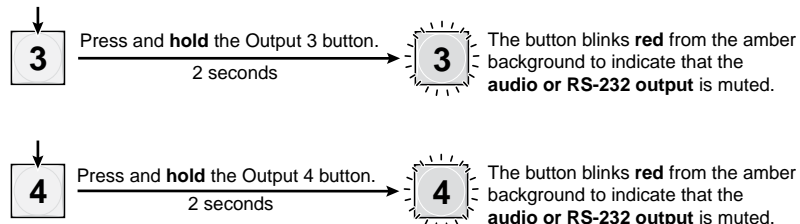

Figure 3-47 — Mute the outputs
4. **One at a time**, press and **hold** the Output 3 button and then the Output 4 button (figure 3-47) for approximately 2 seconds until each button begins to blink. The output 3 and output 4 audio or RS-232 signals are muted.